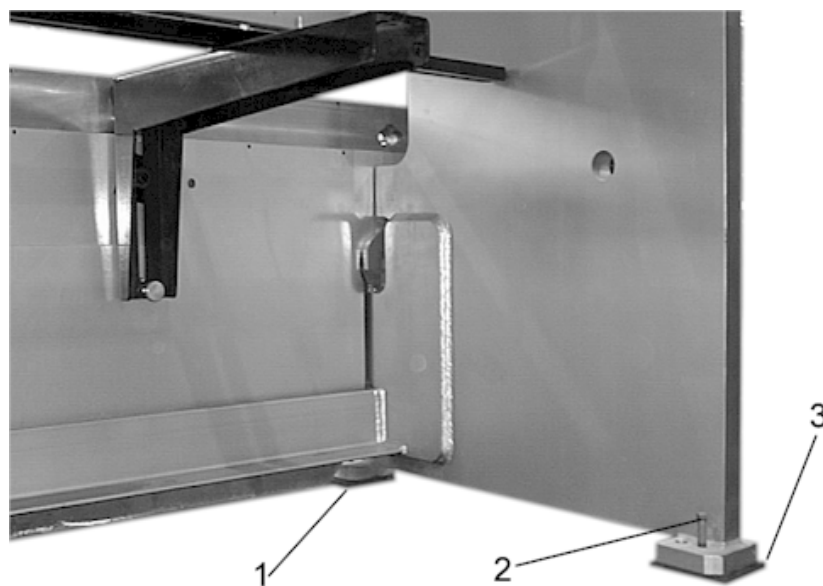

Figure 2: Leveling Plate /Foot Detail
1. Position the 3/4" thick pad under each of the front feet (*see Figure 2 Item 1*).
2. Position the 1/2" thick pad under each of the rear feet (*see Figure 2 Item 3*).